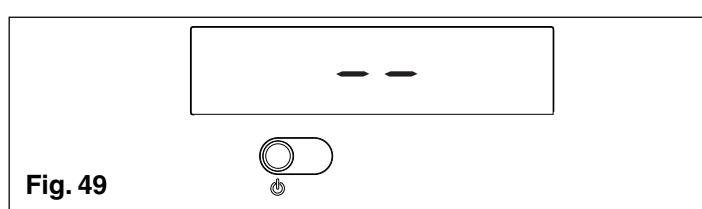

Fig. 49
**!** The boiler turns on in the status it was in before it was switched off: if the boiler was in the winter mode when it was switched off, it will turn on again in the winter mode. If it was in the OFF mode, the display will show two segments in the central area (fig. 49).
For brief absences press the button to switch off the boiler. The display will show two segments in the central area (fig. 49). When the boiler remains powered with the gas tap open, it is protected by the following systems:
For prolonged absences press the button to switch off the boiler (fig. 49). The display will show two segments in the central area. Turn the main switch to "off".